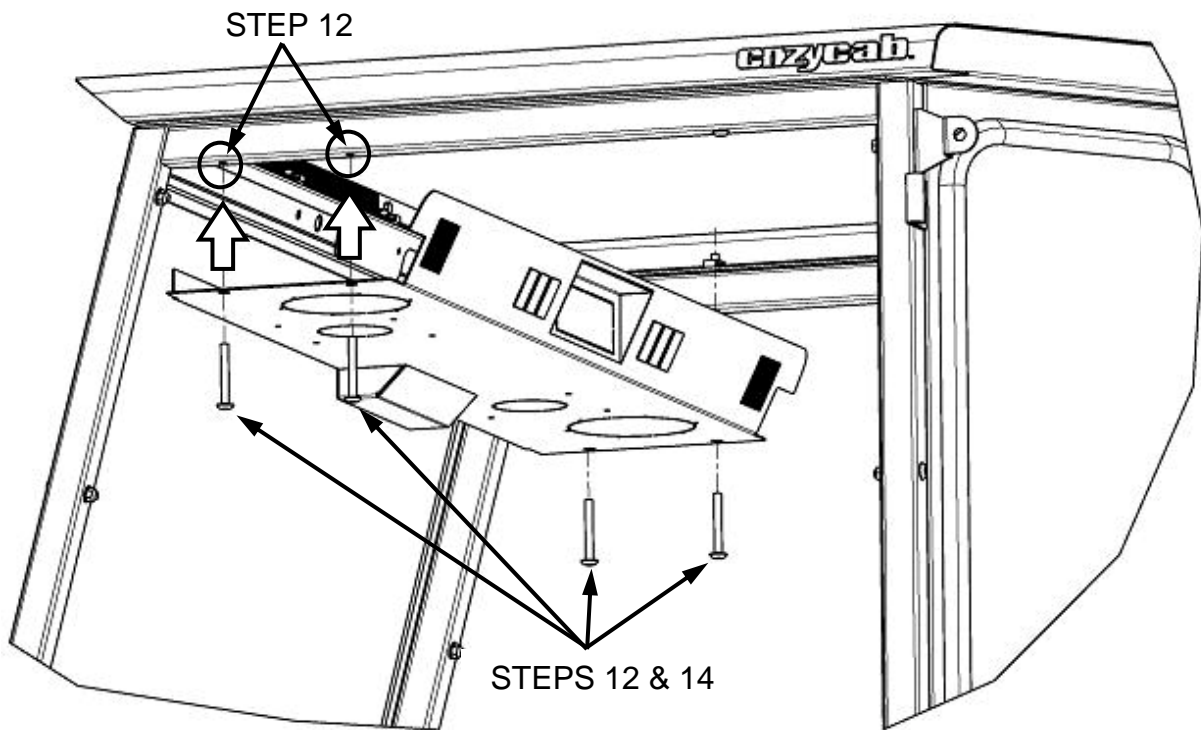

Figure 2
12. If roof is already installed, remove the (4) front 5/16" x 2.50" long button head bolts that secures the roof to each side frame on as shown in Figure 2.
14. (Re)-Install the (4) 5/16" x 2.50" long button head bolts as shown in Figure 2.